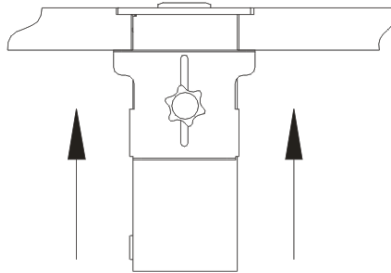

Fig. 7 – Secure Mounting Brackets
- 5.7 Slide the Mounting Brackets up against the bottom of the table. Then tighten the Thumb Screws to secure the Mounting Brackets, as shown in Fig. 7.